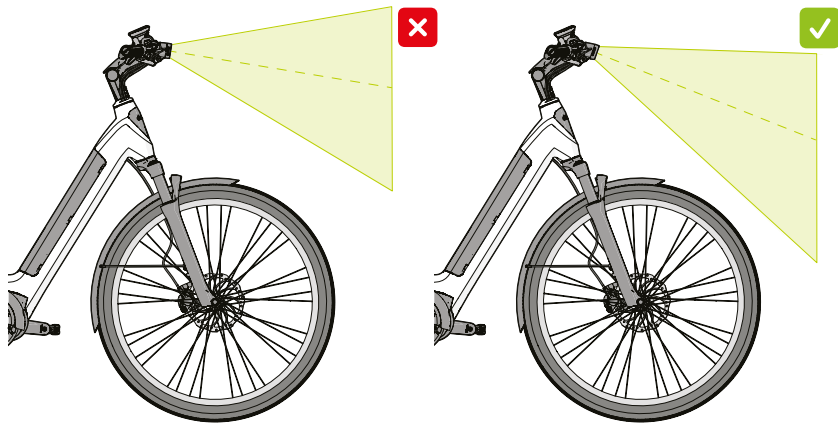

Figure 27 - Correct lighting angle.
Tilt the front light ⑩ until the light beam shines as far ahead as possible but still touches the ground so you can see as much of the road surface as possible, as indicated in Figure 27.